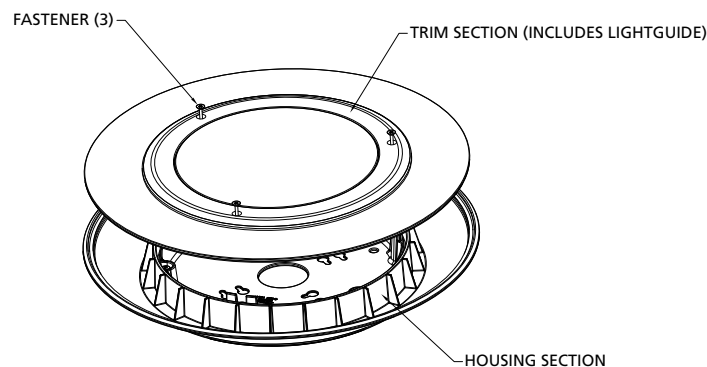

Figure 2
- Using a T20 Torx® tamper-resistant or Phillips driver bit (depending on model/option ordered), loosen - but do not remove - fasteners (3) securing the trim section to housing section and lift off trim section. Store the trim section in a location free of debris and safe from accidental damage. Handle the perimeter lightguide lens carefully as it is essential for proper fixture operation/aesthetics. See Figure 2.